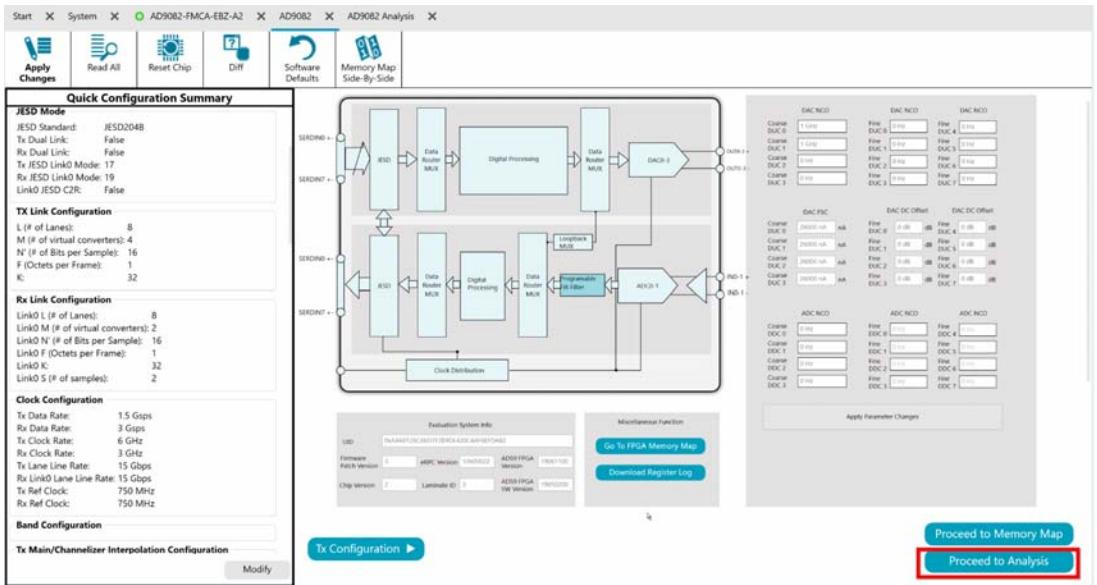

Figure 18. Additional Controls Including Analysis Features
A block diagram that allows transmitter, receiver, and programmable filter configurations loads, as shown in Figure 18.
- Data Rate:** this must match the selected **Tx Data Rate** field under the **Clock Configuration** section in **ACE**, as shown in Figure 18.